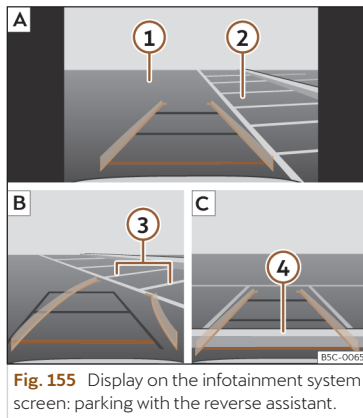

Fig. 155 Display on the infotainment system screen: parking with the reverse assistant.
Key to the >>> **Fig. 155:**
- Stop the vehicle in front of the parking space >>> **Fig. 155** .